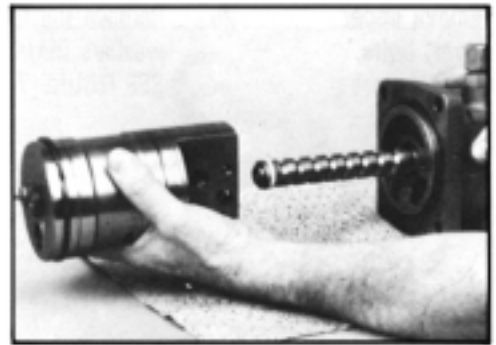

Figure 65
21. Remove rack piston (39) from worm shaft (23) subassembly. SEE FIGURE 65.